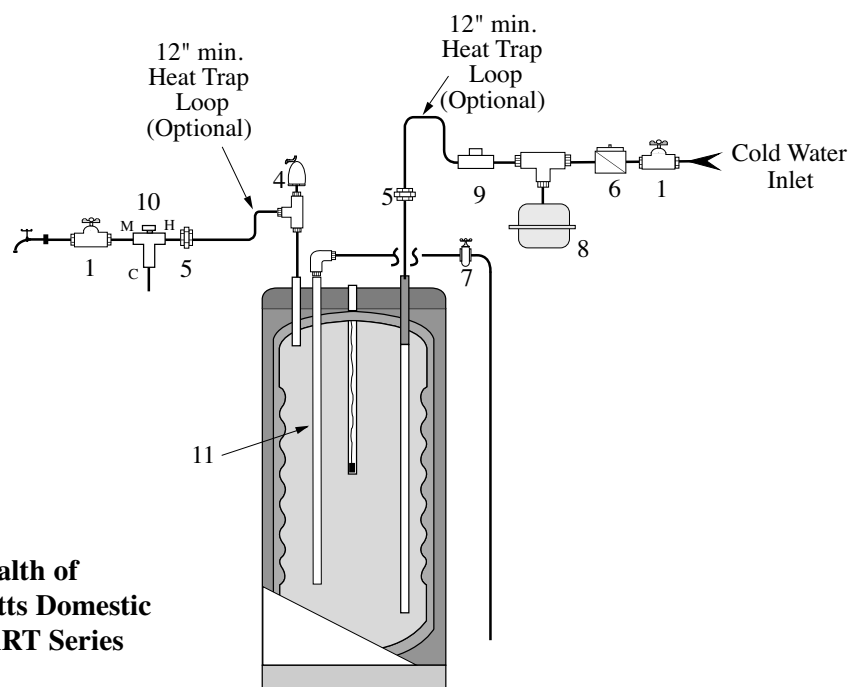

Fig. 5: Commonwealth of Massachusetts Domestic Piping SMART Series
- Install a 3/4" NPT elbow to the Auxiliary connection, see Fig. 5 page 10.